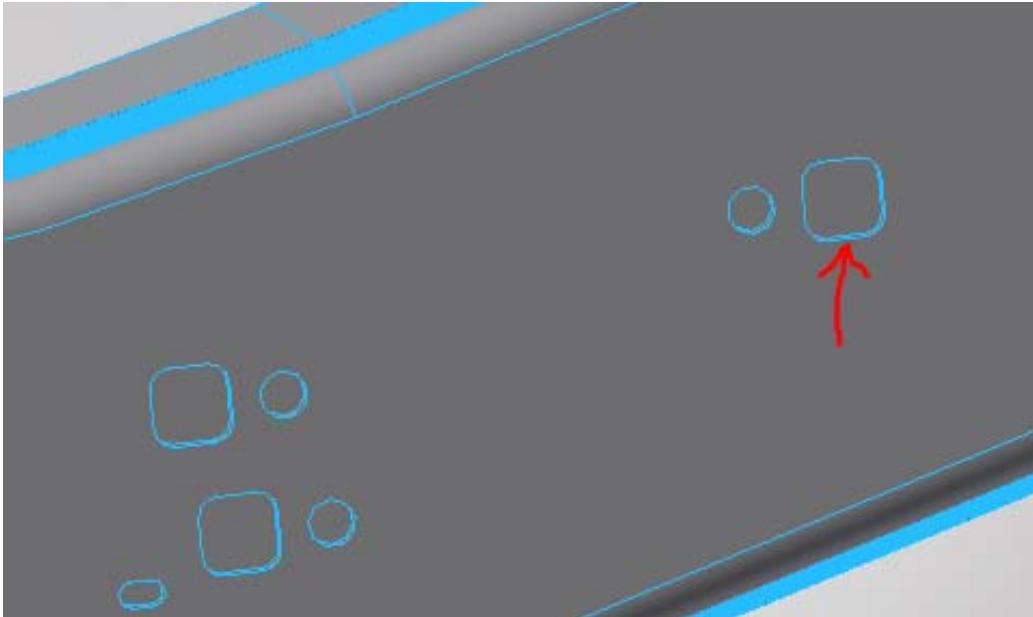

Figure 5
1. Remove fuel cooler (Figure 8) from inside frame. Hoses should not have to be removed, just bolts taken out to be free of the frame. We will be using one of the existing mounting points for our bracket. Clip will need to be removed from square hole. See (Fig.5) for location.